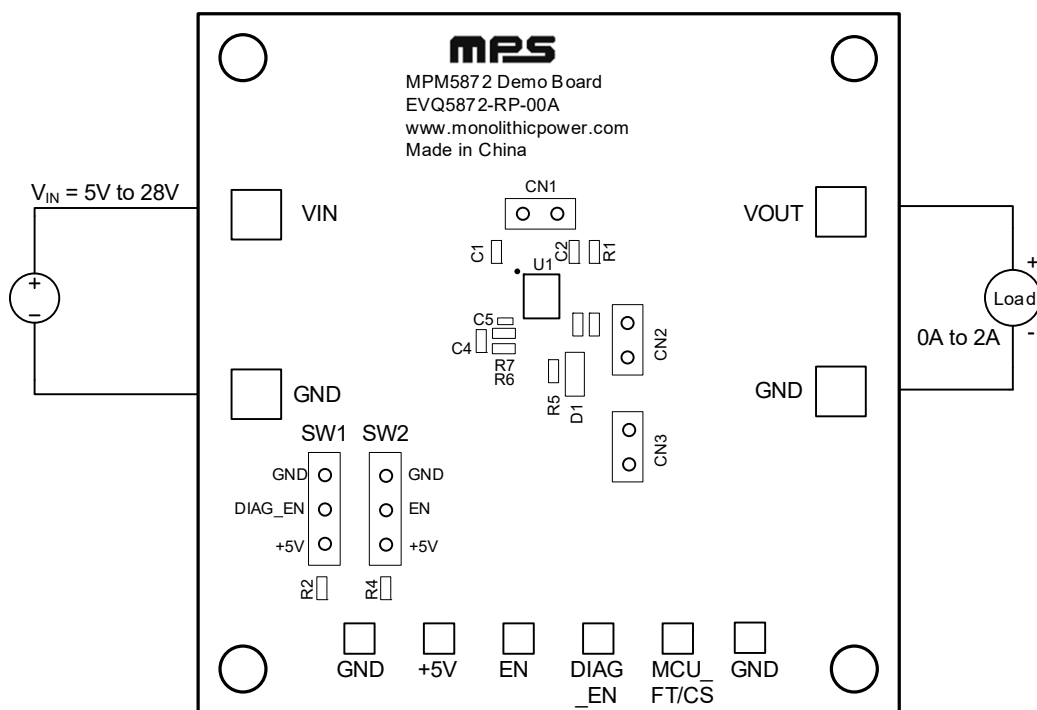

Figure 2: Measurement Equipment Set-Up
- Figure 2 shows the measurement equipment set-up.